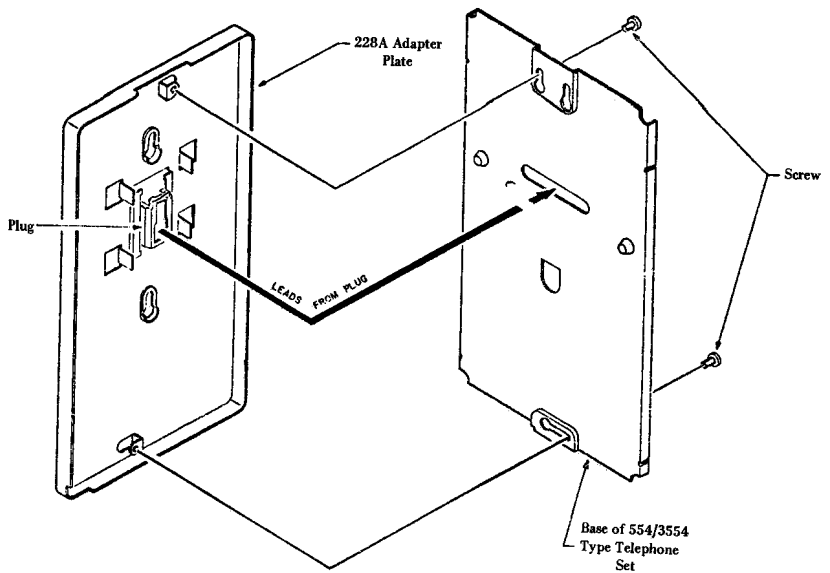

FIGURE 19. 228A Adapter Plate
- Route the wiring from the adapter through the hole in the back of the set. See Figures 19 and 20.